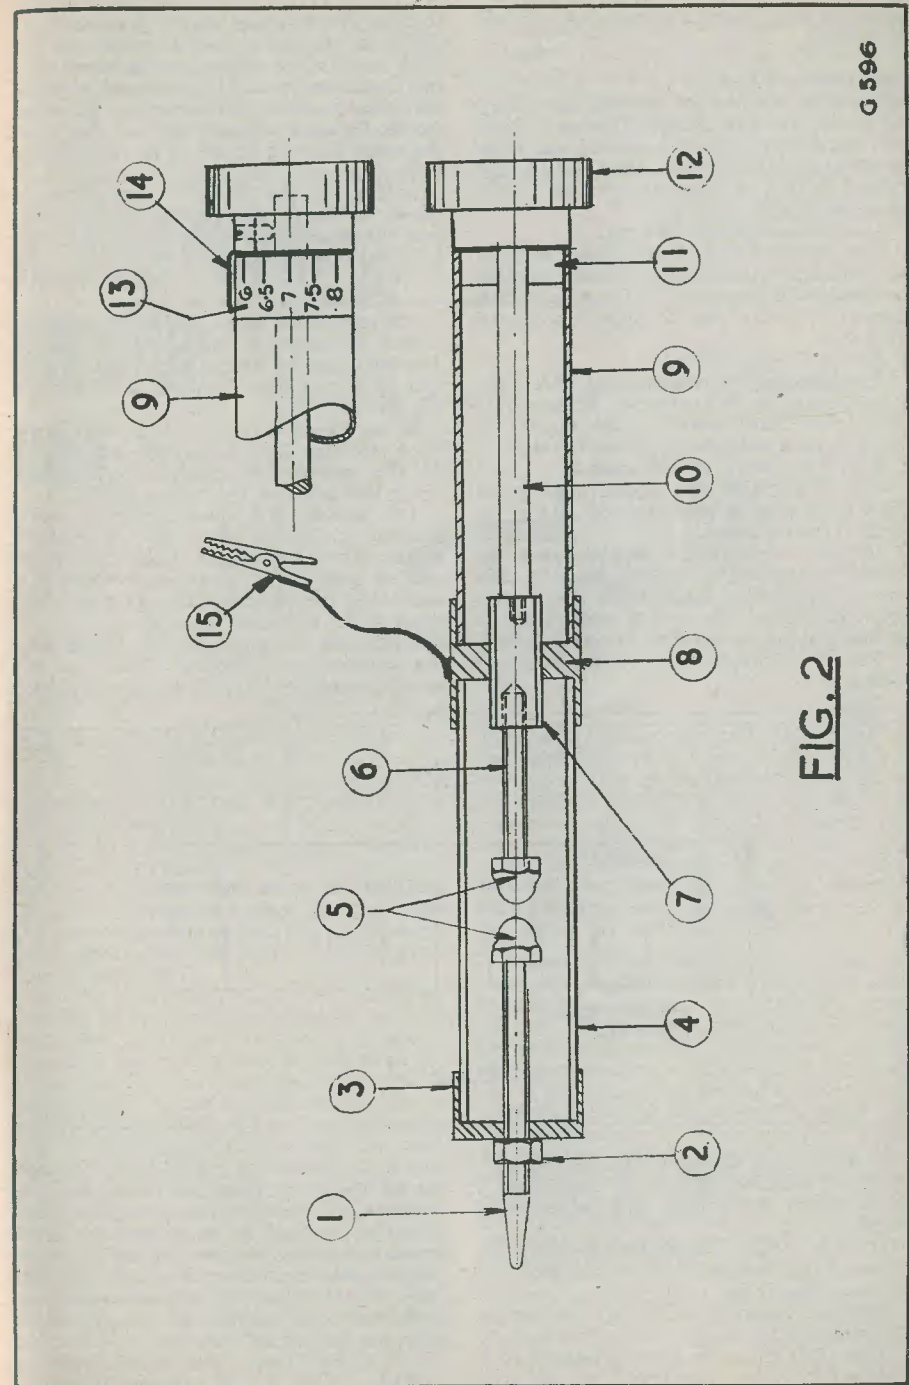

FIG. 2
Fig. 2 is a cross-sectional view illustrating the assembly of a suitable tester, but it would only be fair to state that all the component parts will not be easy to find in the junk box. In fact, two of the details (items 3 and 8) were turned on a lathe; although, if a lathe is not available for
Referring to Fig. 2